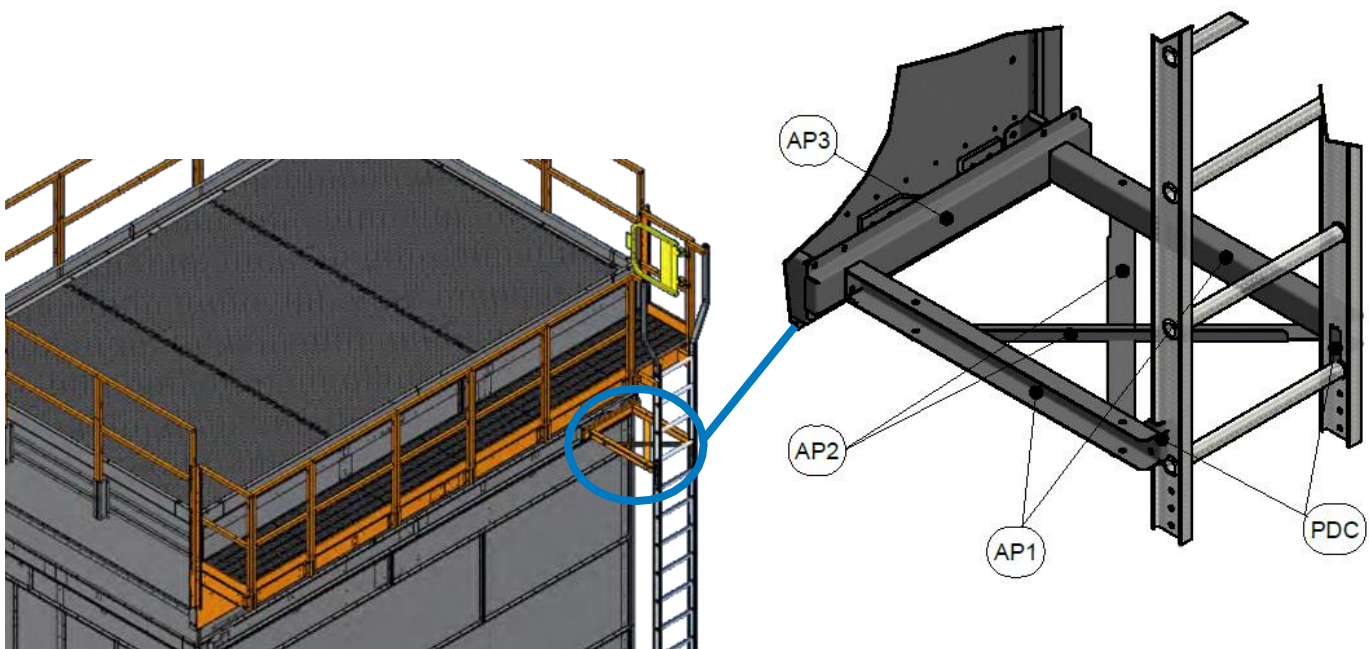
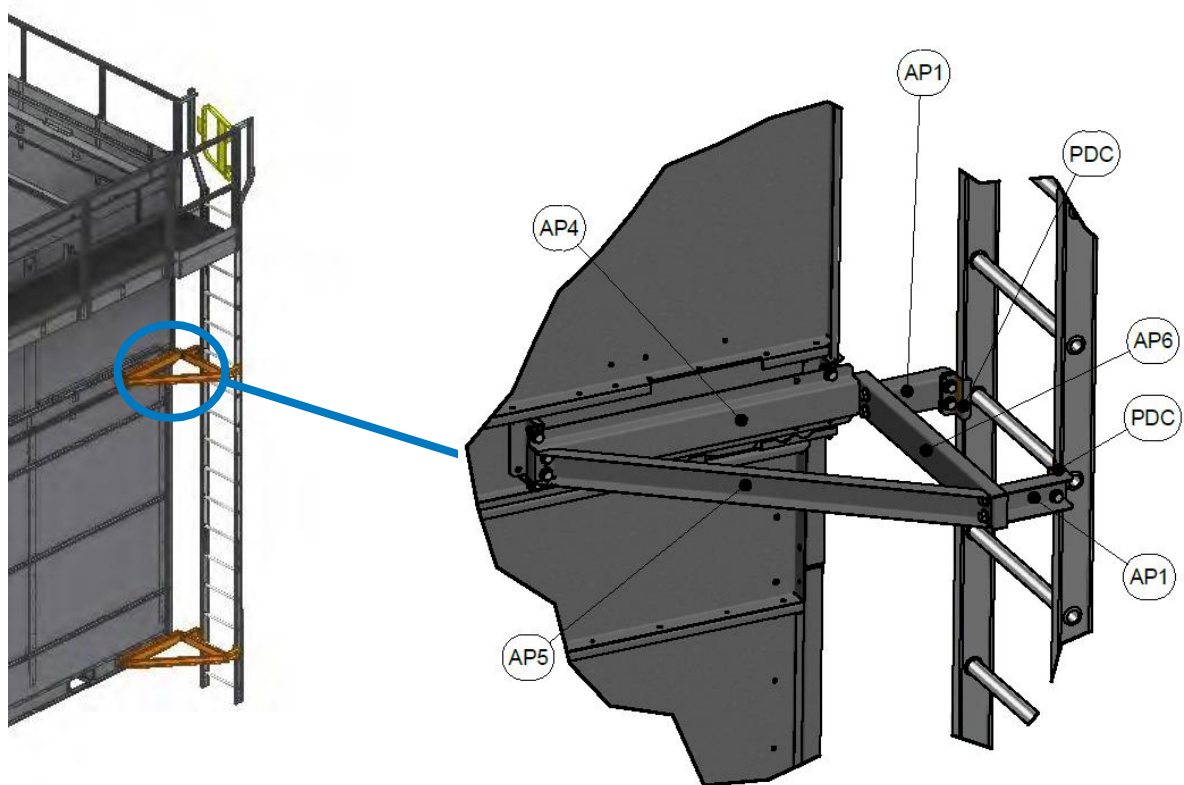

Figure 11. Typ. Ladder & Bracket Installation
Figure 12. Typ. End Ladder & Bracket Installation
3. Loosely fasten the lower and intermediate appropriate ladder brackets and diagonal braces to the factory installed ladder brackets as shown in **Figure 11** and **Figure 12**. Check your submittal for the ladder orientation ordered.
5. Attach the ladder to the platform and fasten the lower and intermediate brackets to the ladder side rails as shown in **Figure 11** and **Figure 12**.